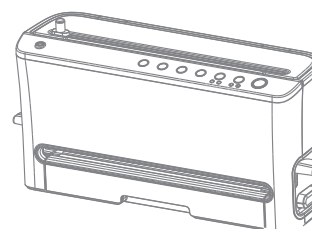

FIG. 1
7. Clean the Drawer. Be sure to pull out the drawer smoothly. **FIG. 1**